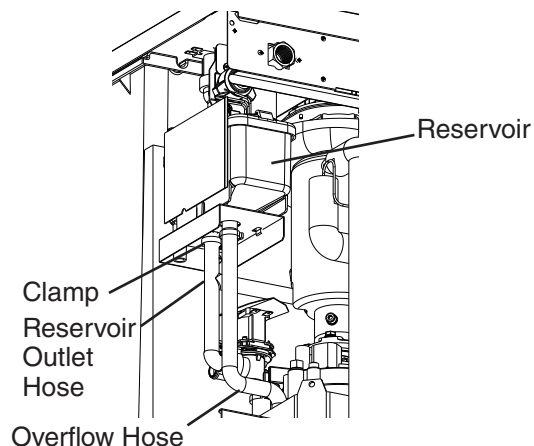

Fig. 35
- 12) Remove the clamp securing the reservoir outlet hose to the reservoir. Disconnect the reservoir outlet hose from the reservoir. See Fig. 35.